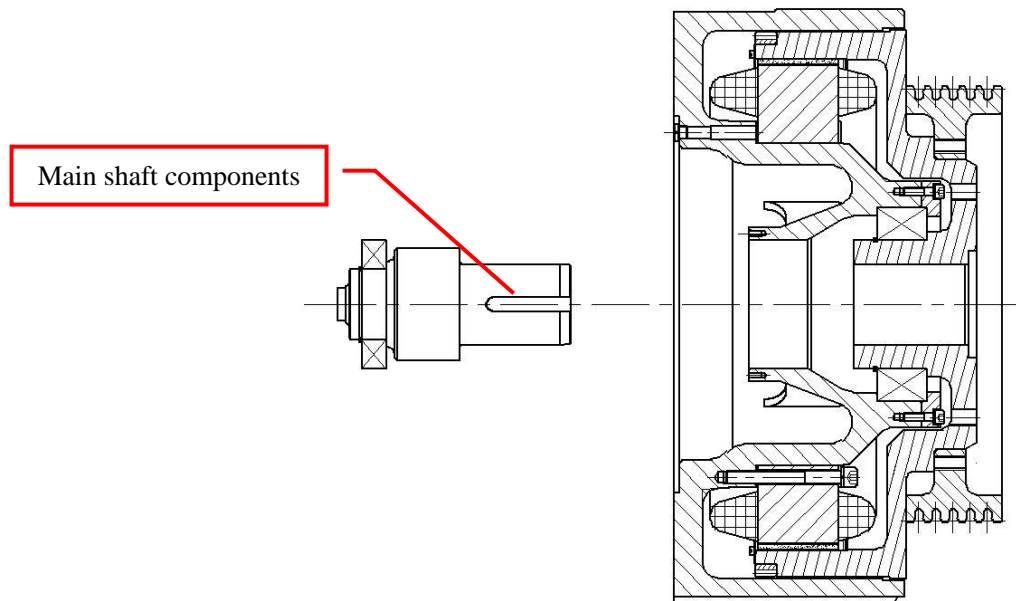

Figure 51: Install main shaft components
2. Clean the main shaft components and spindle hole of the brake wheel components, and deburr the key. Apply some lubricating oil onto the surface of the main shaft, and then put the main shaft components into the hole of the spindle hole. See Figure 51.